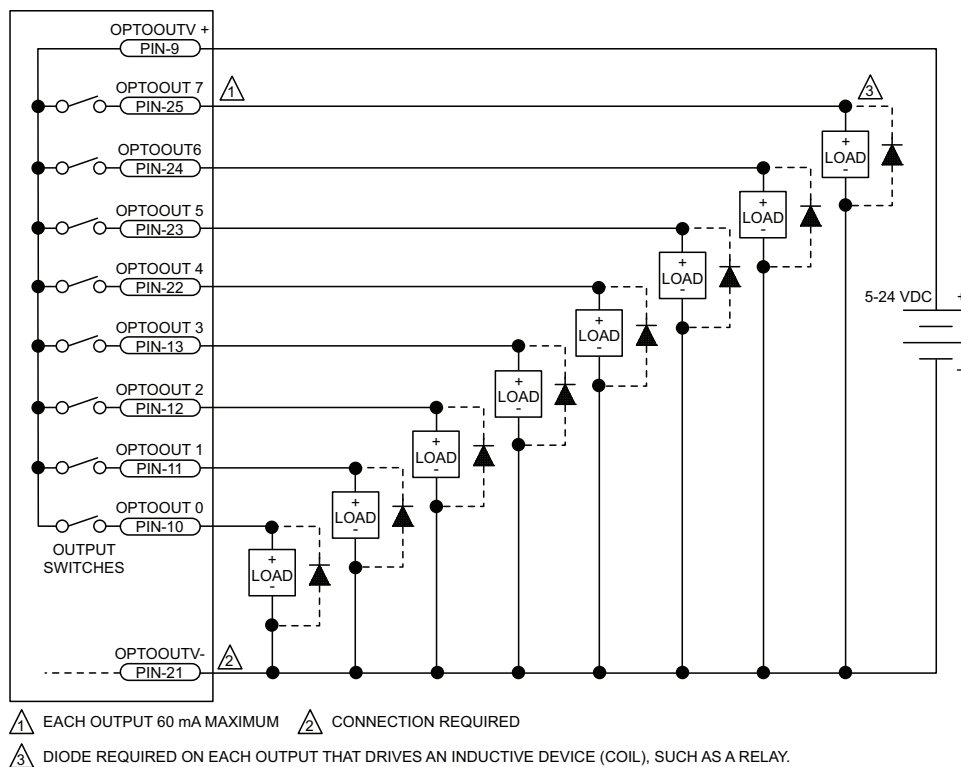
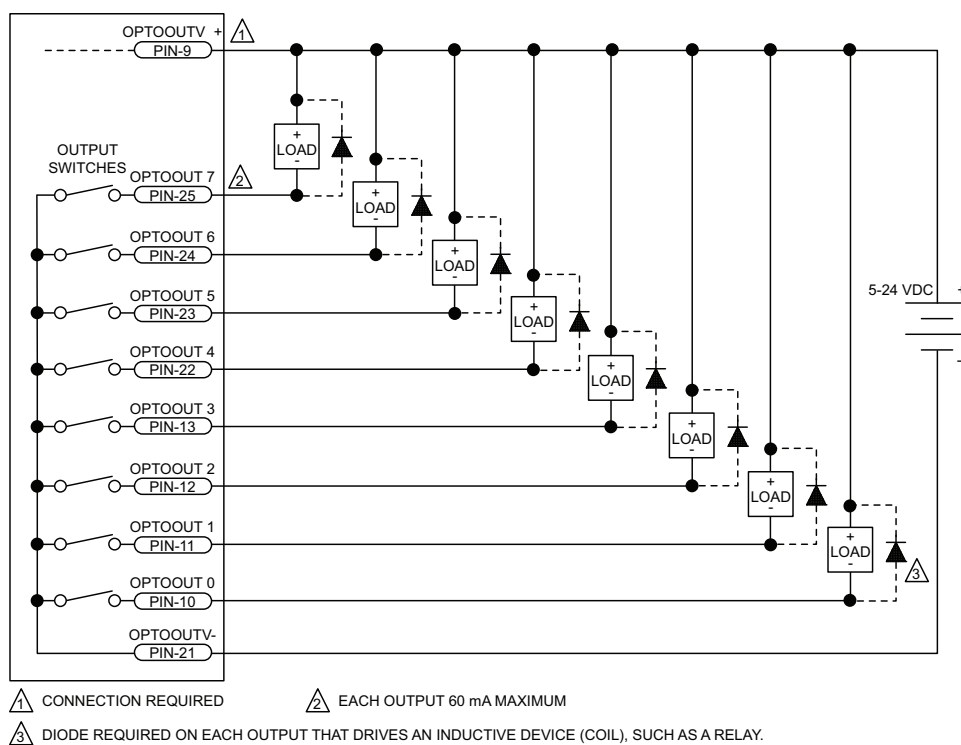

Figure 2-27: Outputs Connected in Current Sourcing Mode
Figure 2-28: Outputs Connected in Current Sinking Mode
The outputs are software-configurable and must be connected in either all sinking or all sourcing mode. Figure 2-27 and Figure 2-28 illustrate how to connect to an output in current sourcing and current sinking modes.
NOTE: Power supply connections must always be made to both the Output Common Plus (OP) and Output Common Minus (OM) pins as shown in Figure 2-27 and Figure 2-28.
Suppression diodes must be installed on outputs driving relays or other inductive devices. This protects the outputs from damage caused by inductive spikes. Suppressor diodes, such as the 1N914, can be installed on all outputs to provide protection. It is important that the diode be installed correctly (normally reversed biased). Refer to Figure 2-28 for an example of a current sinking output with diode suppression and Figure 2-27 for an example of a current sourcing output with diode suppression.